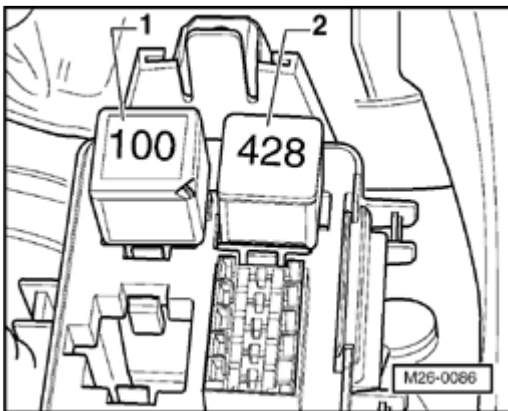

Fig. 307: Position Of Relays In Protective Housing (On Left In Engine Compartment)
- Relay assignment in protective housing. See Fig. 307 .
- Installed location: On right on underside of vehicle. See Fig. 307 .
- Installed location: On right on underside of vehicle. See **Fig. 307** .